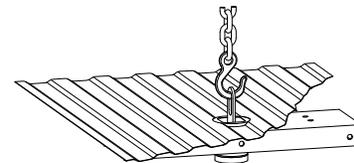

Figure A3
5. **Prepare a lifting device (optional).** The purpose of the device is to safely hold the hitch in position during part of the installation. See Figure A3 for an example. A simple mechanical lifting device is available for purchase from B&W.